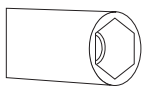

Figure 3
1. Please use driver with special head for removed and install nozzle as (figure 3).